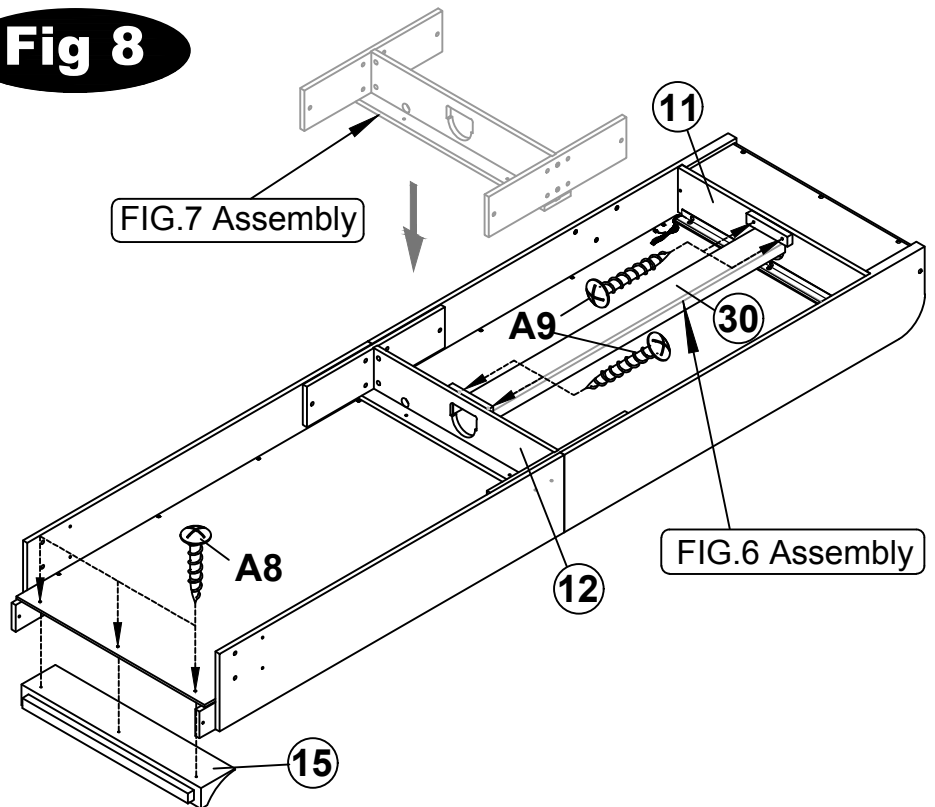

Fig 8
14. Attach the Reflux Tank(#30) to the Frame (#11 & #12) using four Screws(A9) as shown FIG.8.